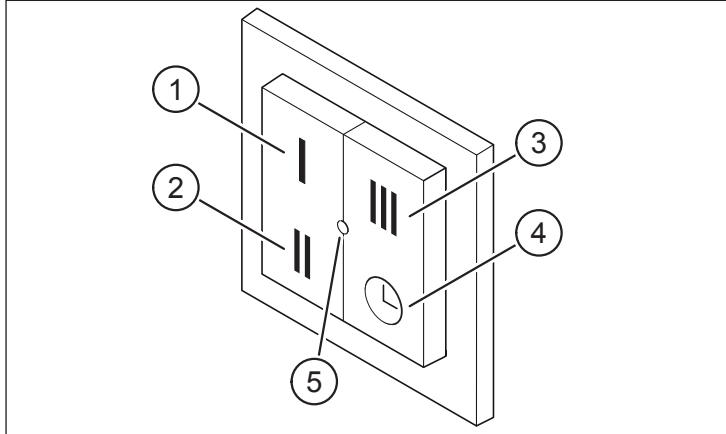

Fig. 1: 4-way wireless pushbutton switch
The buttons (items 1 to 4 in Fig. 1) are used to activate four different ventilation levels/programs. The LED (item 5 in Fig. 1) signals operating statuses of the wireless pushbutton switch and ventilation unit. The optional M-WRG-FBH wireless remote control, part no. 5478-10, can be used to program the button assignment of the wireless pushbutton switch. You will find more details in the "User guide for wireless remote control M-WRG-FBH". The wireless pushbutton switch can also be used in parallel with the wireless remote control and in conjunction with the U² installation version and all M-WRG-II and M-WRG covers.
- ▶ Press the I and III or II and ⌚ buttons on the wireless pushbutton switch at the same time until the ventilation unit beeps twice and the Status LED (item 5 in Fig. 1) on the wireless pushbutton switch flashes green twice.
- ▶ Use the I, II, III or ⌚ button to select the desired ventilation level/program (see Fig. 1).
The Status LED (item 5 in Fig. 1) provides the following feedback when the button is pressed: